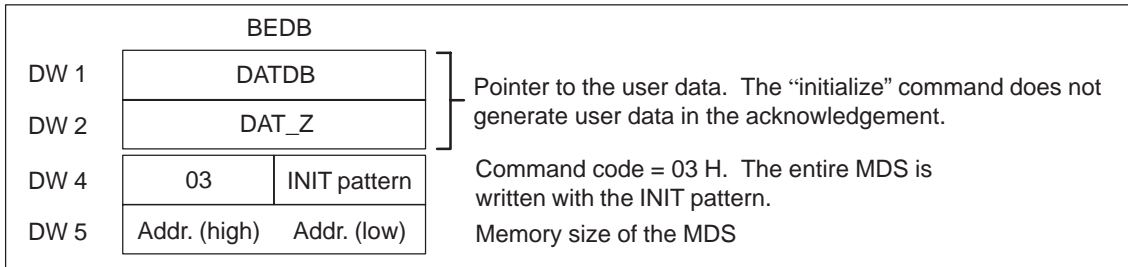

Figure 3-7 Initializing the MDS
**Initialize (INIT)** The command parameters for initializing the MDS must be assigned as shown in figure 3-7.